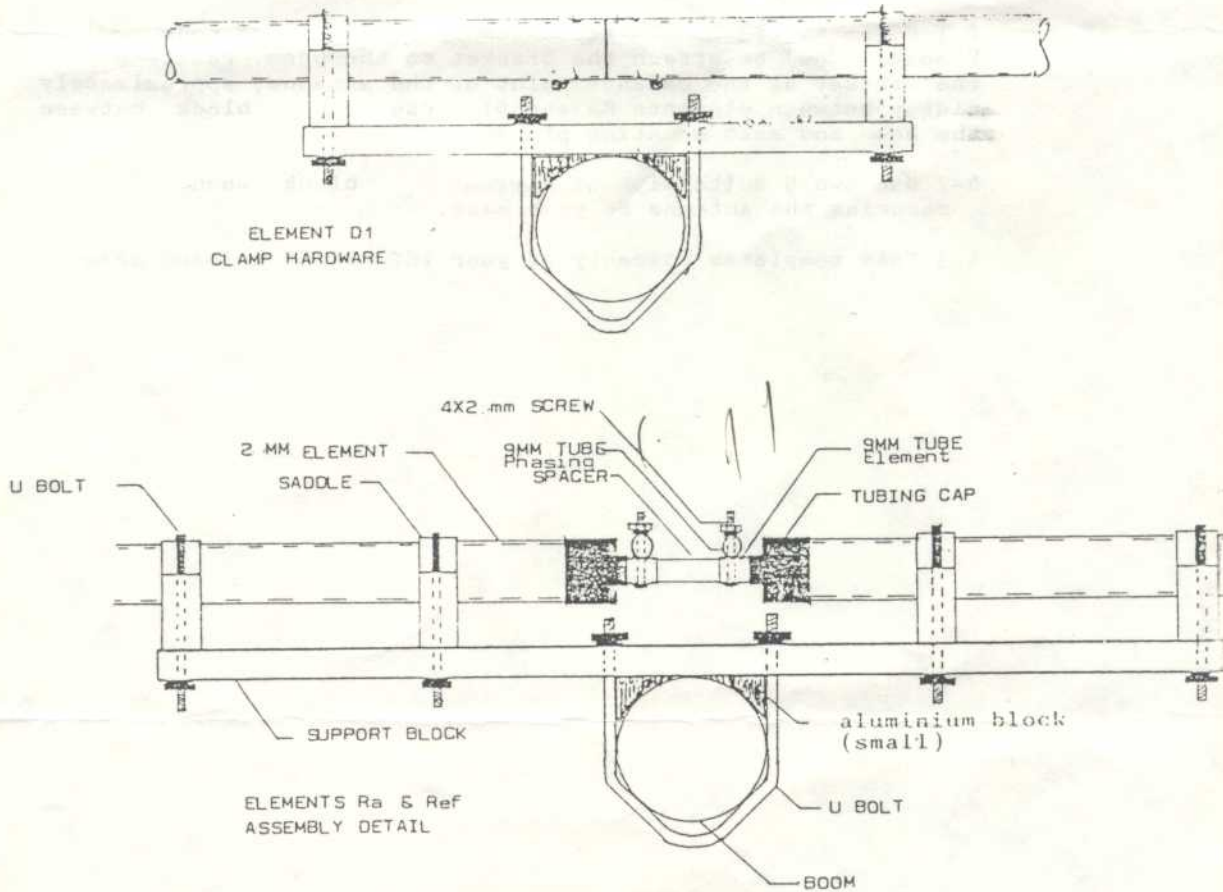

FIGURE 1
4.2 Refer to Figure 1 and 2 for assembly detail.
5.1 Attach elements D1, Ra, and Ref to the boom in the positions previously marked in step 3.3. Each element is secured with two U Bolts, washers and nuts. Before tightening the assembly to the boom, slide in small aluminium block between the boom and the bracket. Refer to Figure 1.